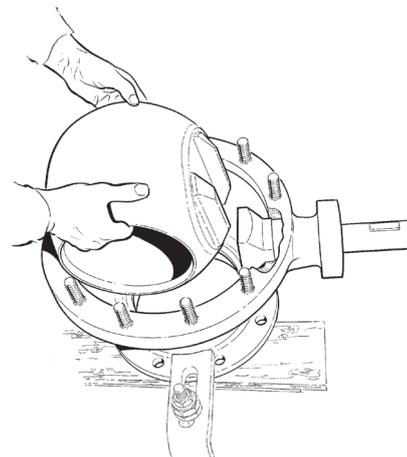

Figure 6. Lifting the ball
3. Put the valve on a suitable, flat surface with the body cover (2) facing upwards. Remove the body cover (2).
4. Remove the ball (3), which is done when the ball is in the position shown in Figure 6. Secure the ball (3), inhibiting it from moving/rolling.